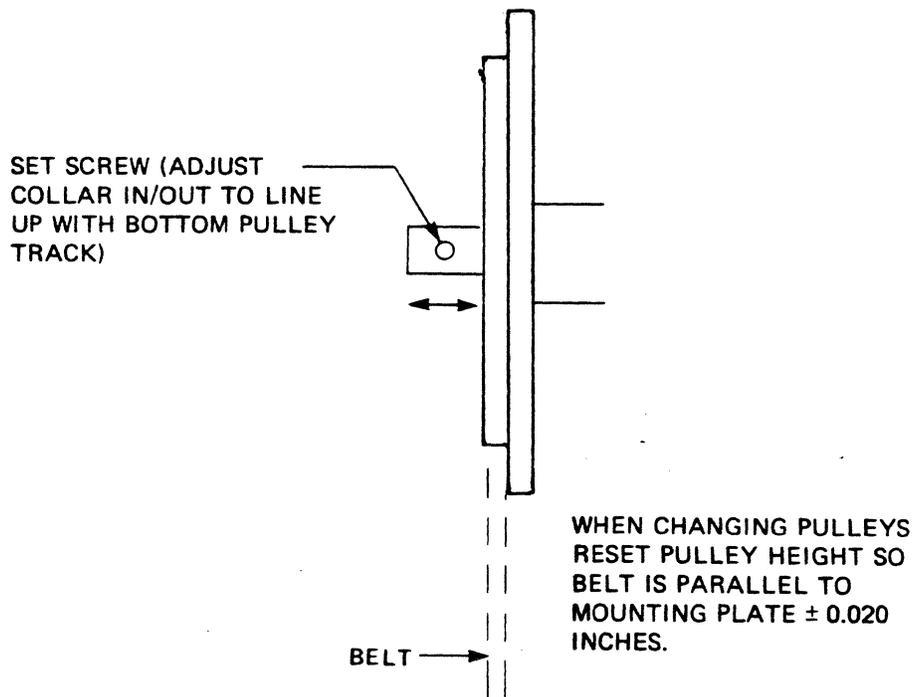

Figure 2-9. Blower Motor Pulley/Belt Positioning
- c. Verify that the pulley supplied is the correct one for the line frequency specified on the factory label. To adjust for high altitude, or to change power frequency, see figure 2-9 and table 2-5.